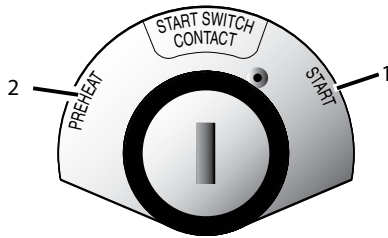

Figure 4-2. Ignition Switch
2. Insert key into the ignition switch on control panel and turn key clockwise (CW) to START position (Figure 4-2,1).
1. Turn key counterclockwise (CCW) to PREHEAT position for approximately 30 seconds to 2 minutes to preheat engine (Figure 4-2,2).
2. Turn key clockwise (CW) to START position (Figure 4-2,1). After engine starts, throttle back - make sure the engine does not over rev. (RPM's too high may possibly do engine damage.)